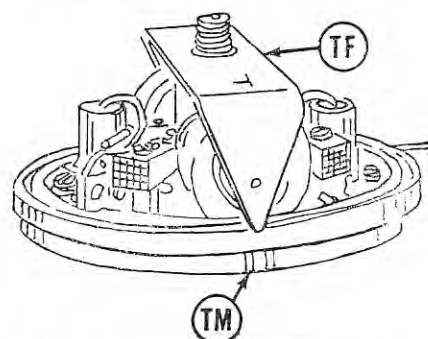

Fig. G56—Timing fixture (TF) installed and aligned with armature plate timing marks (TM) for adjusting points for upper cylinder. Refer to text.
flywheel as shown in Fig. G56, and used in conjunction with a timing light of the type shown in Fig. G57.
To synchronize the points using the timing fixture and light, remove the flywheel and install timing fixture, making sure it is properly fitted over flywheel key. Install timing light by attaching one clip to the insulated point (3—Fig. G58) and grounding the other clip. Bulb should light when points are closed, and go out when points are opened. Turn crankshaft until fixture pointer rests midway between the two embossed armature plate timing marks as shown in Fig. G56. Loosen the breaker point anchor screw (6—Fig. G58) and turn the adjusting screw (4) until points close and bulb lights up. Turn adjusting screw in opposite direction until points barely open as indicated by timing light going out; then tighten anchor screw (6). Turn crankshaft exactly 1/2-turn until the opposite pointer of timing fixture is aligned; then adjust the other set of points. NOTE: Timing fixture pointer legs are marked "T" and "B" to indicate upper and lower cylinders respectively.